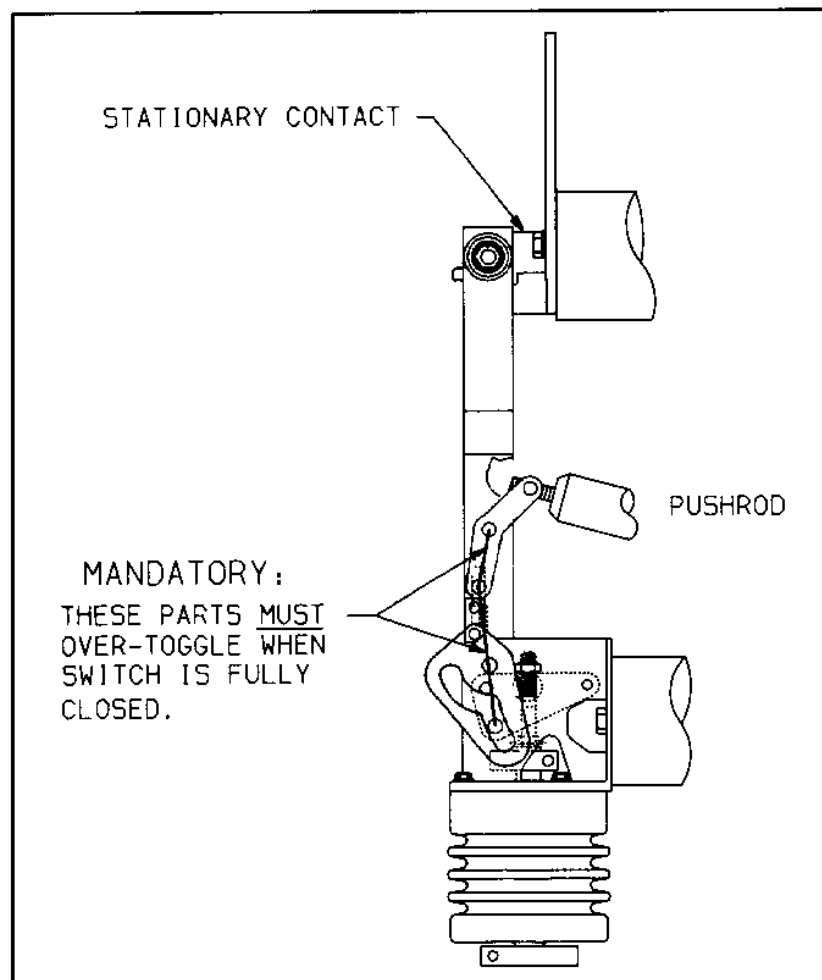

Figure 12
e. *Close* interrupter pole unit by "pulling" push rod (#9). Insure that toggle linkage (#8) and erosion gap turnbuckle (#10) go "into toggle" as shown on Figure 12.
c. Operate mechanism until interrupter switch just closes. Check links for "over toggle". See Figure 12.
n. Figure 12, With interrupter switch closed, check that the disconnect blades can be moved "in" and "out" approximately 1/8" at the stationary contact jaw without switch going out of toggle.
- Using the manual charging handle, operate the mechanism and operator until the interrupter switch just closes and goes "over toggle" as shown in Figure 12.
If interrupter switch pole assemblies have not "gone into toggle" (See Figure 12), push into "toggle" by hand by pulling on pole pushrods.